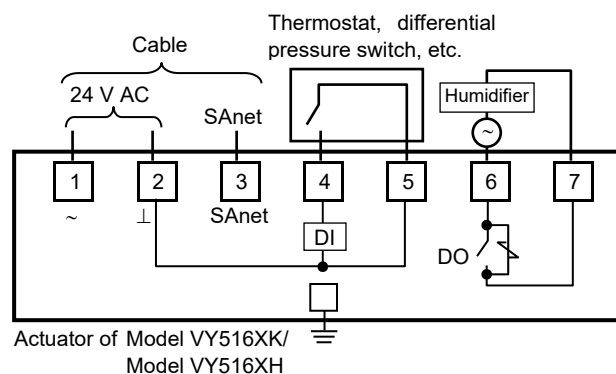

Figure 11. Basic connection example
- 3) Correctly connect the wires to the terminals with M3.5 screw terminal lugs, referring to Fig. 11.
In the manual operation mode, even when this product has not been connected via SAnet yet, the operations shown in Table 2 can be performed. Follow the procedure below for the operation check. For the locations of the service pin switch and the rotary switch, see Fig. 11.